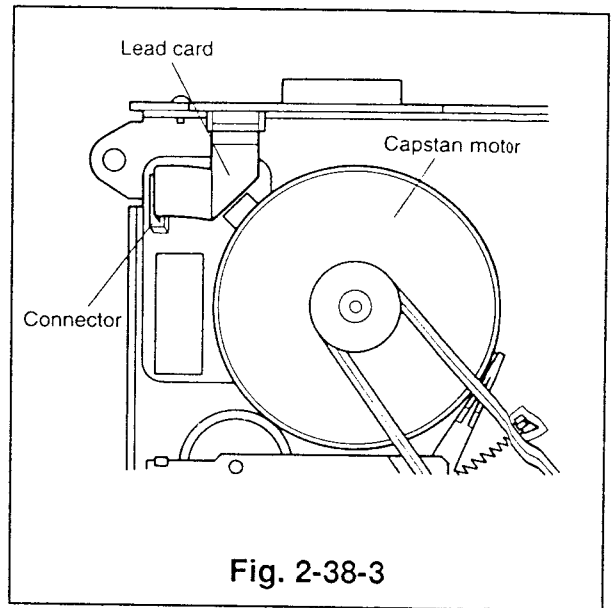

Fig. 2-38-3
- ③ Bend the new lead card as shown in Fig.2-38-3 and connect it to the connectors of the PCB of the capstan motor and the PCB-HEAD-AMP so that copper side appears as shown in Fig. 2-38-1. Take care not to touch the rotor of the capstan motor.
- ④ Install the reel belt. (Refer to Para. 2-28 for the installation method.)